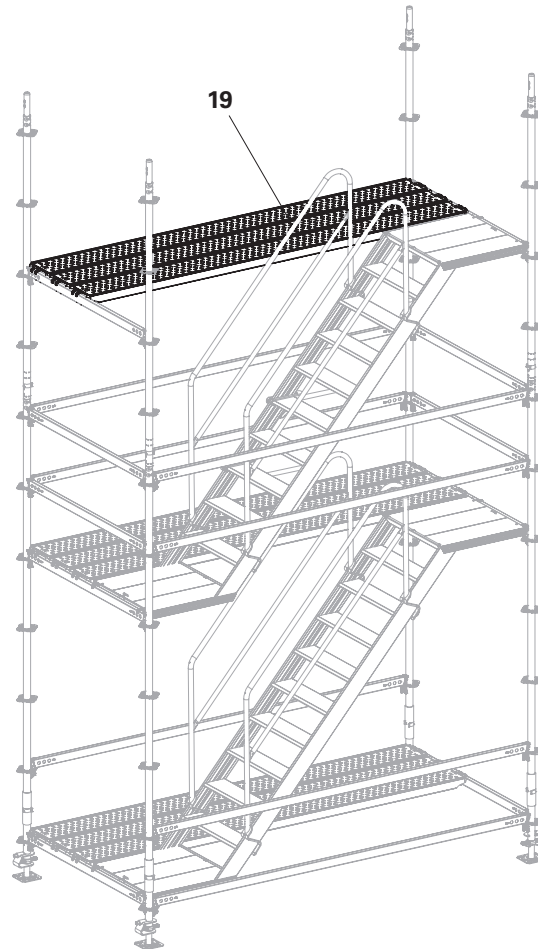

Fig. A4.03
1. Fit 3 x Steel Decks UDG-2 (**19**) next to the Flex Stair. (Fig. A4.03)